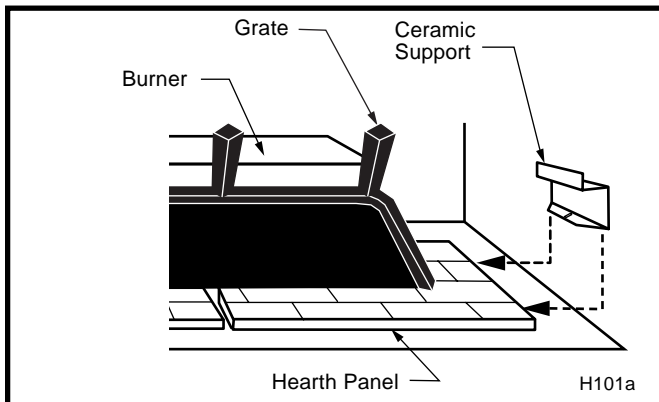

Fig. 32 Ceramic support.
2. Insert supports under ceramic hearth panels. (Fig. 32)